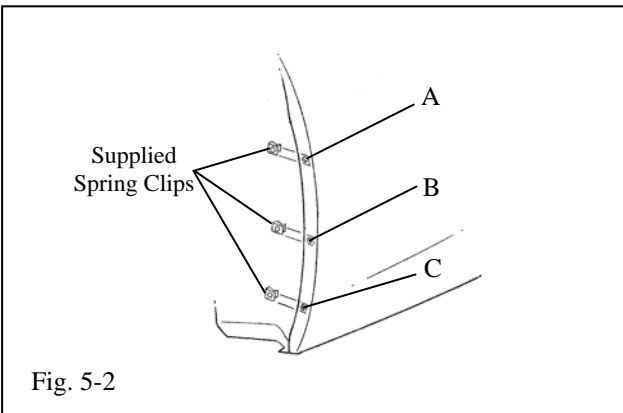

Fig. 5-2
-  (c) Install supplied spring clips over panel edge holes locations A,B and C with turned up edge on inside of panel. (Fig. 5-2)